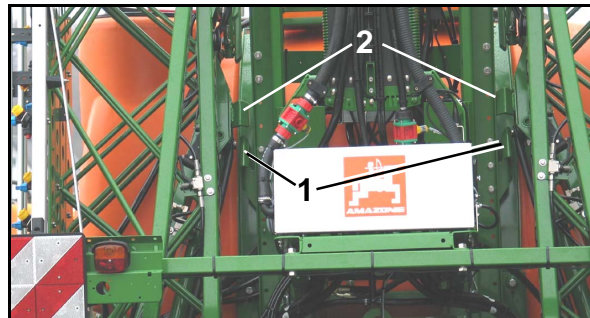

Fig. 134
1. Lift the sprayer booms via the height adjustment (functional field ) until the latches (Fig. 134/1) release the location pockets (Fig. 134/2).
Fig. 134 shows the unlocked sprayer booms